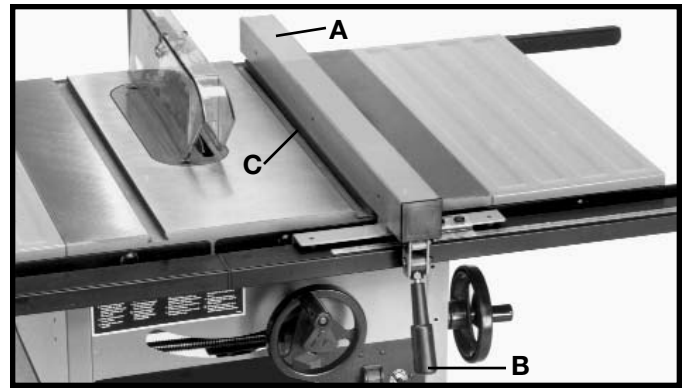
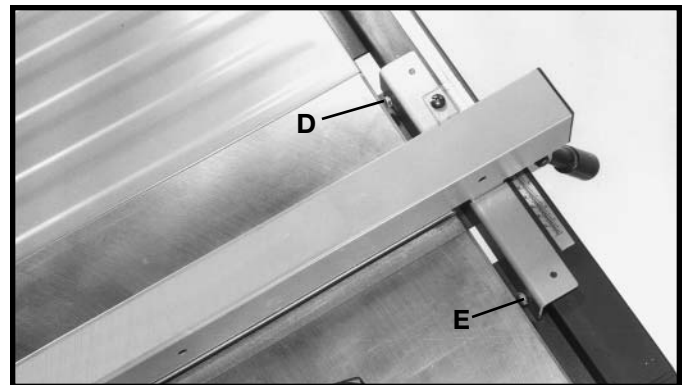

Fig. 41
Fig. 42
1. To move the fence (A) Fig. 41, along the guide rails, lift up on the fence locking lever (B), slide the fence to the desired location on the guide rails and push down on the locking lever (B) to lock the fence in position.
2. The fence (A) Fig. 41, must be adjusted so it is parallel to the miter gage slots (C). To check and adjust, move fence (A) until the bottom edge of the fence is in line with the edge of one of the miter gage slots as shown, and push down on the fence locking lever (B). Check to see if the fence (A) is parallel to the edge of the miter gage slot (C) the entire length of the table. If an adjustment must be made, slightly tighten or loosen one of the two adjusting screws (D) or (E) Fig. 42. Check again to see if the edge of the fence is parallel with the miter gage slot the entire length of the slot. Repeat this adjustment until the fence is parallel with the miter gage slot. **IMPORTANT: DO NOT REMOVE THE RIP FENCE FROM THE GUIDE RAIL TO MAKE THIS ADJUSTMENT. VERY LITTLE MOVEMENT OF SCREWS (D) AND (E) FIG. 42, IS NECESSARY.**